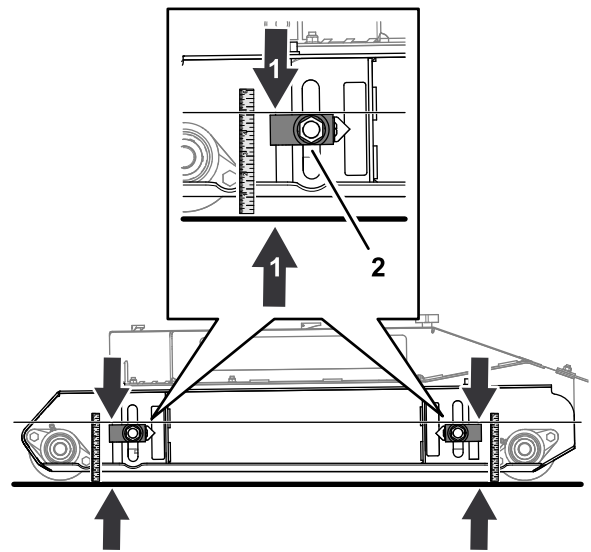

Figure 73
1. Loosen the nut that secures the height-of-cut adjuster block (Figure 73).
2. Move the height-of-cut adjuster up or down until you measure 124 mm (4-7/8 inches) from the top of adjuster block to the ground (Figure 73).